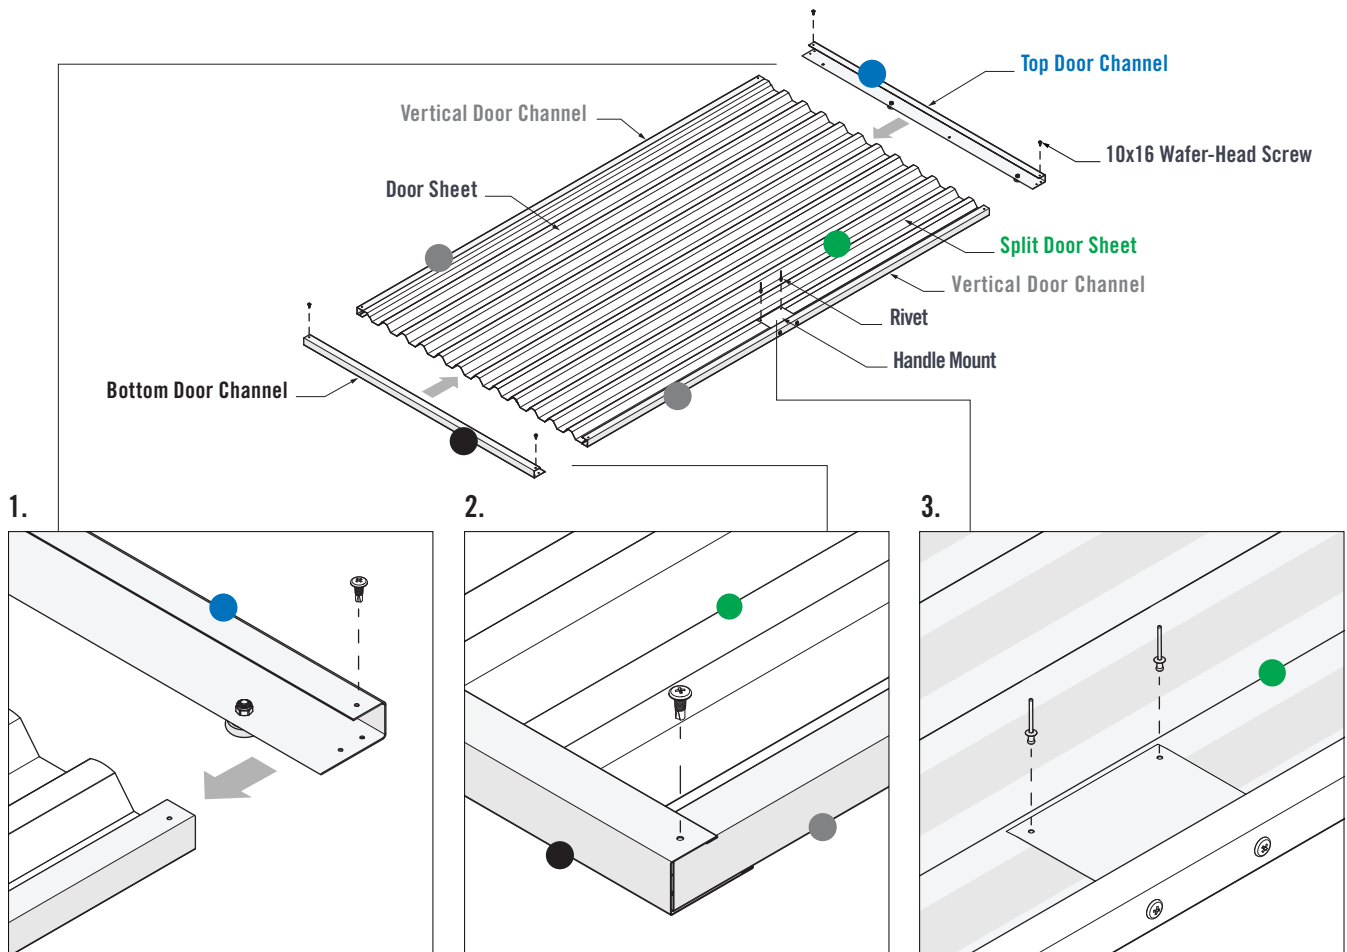

FIGURE 6.5
1. Fit the Vertical Door Channels over the side of the door sheets, then fit the **Top** and **Bottom** Door Channels over the door sheet ends. Ensure the lip of the **Top** and **Bottom** Door Channels fit over the Vertical Door Channels (Figure 6.5).
2. Fasten one 10x16 Wafer-Head Screw through the pilot holes in the corner of each **Top** & **Bottom** Channel and into the Vertical Door Channels (Figure 6.5).
3. Drill two 3.5mm holes through the Handle Mount and into the **Split Door Sheet**. Install two coloured Rivets (Figure 6.5).